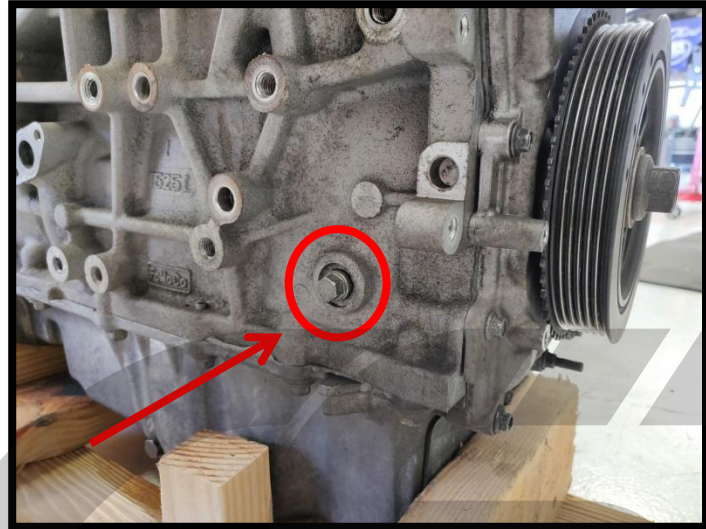

Figure 1a
- c) Remove the plug bolt that is behind the crankshaft position sensor using a 10mm wrench. Shown in Figure 1a.